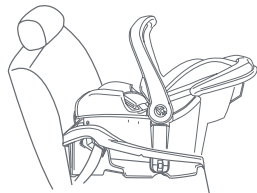

Fig. 51-1
1. Safety Seat with Base: Make sure the vehicle is parked on level ground. Lock the Safety Seat onto the Base and check that the Safety Seat is level side to side on the vehicle seat (Fig. 51-1). Check the Seat Angle Indicator that matches the weight of your child.